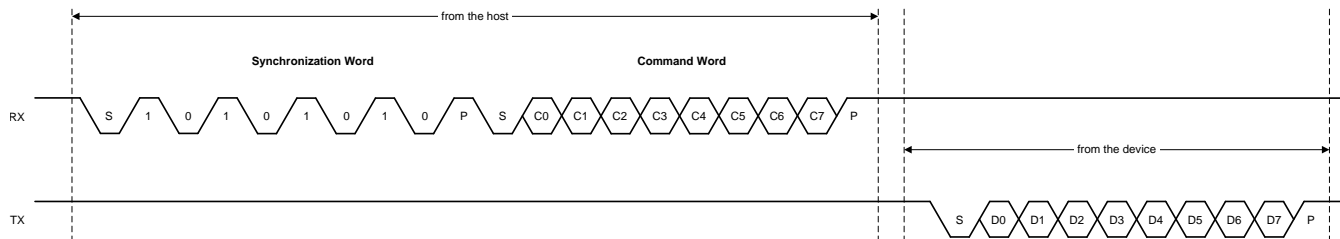

Figure 20. Example ADS122U04 UART Protocol
Figure 20 shows the timing sequence for the UART communication. In Figure 20, as an example, there is only one byte for the command and one byte for the readback data. There may be multiple bytes for a command or the data that is read from the device. The protocol takes the 8-N-1 format: eight (8) data bits, no (N) parity bit, and one (1) stop bit.